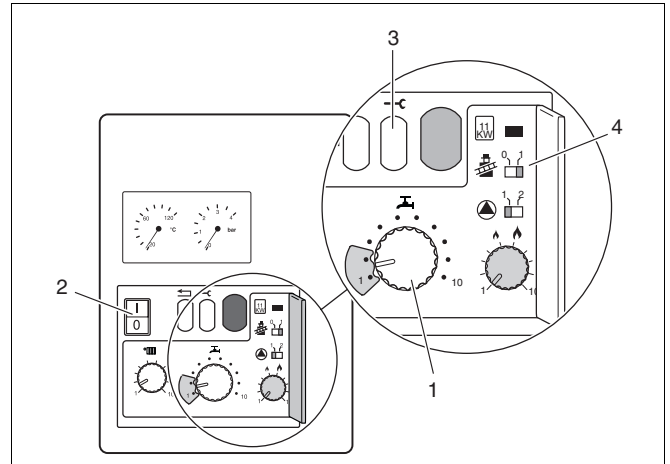

Fig. 35 Mains switch, service button and chimney-sweep switch
- Turn the chimney-sweep switch (fig. 35, item 4) to position "1".
- Turn the power switch (fig. 35, item 2) to position "1". The burner should ignite after about 30 seconds.
- Turn mains power switch (fig. 35, item 2) and chimney-sweep switch (fig. 35, item 4) to "0".
- If the burner has fired after approx. 30 seconds, keep the service button (fig. 35, item 3) pressed until "Y" appears on the display.
- Turn the hot-water temperature controller (fig. 35, item 1) to "1".